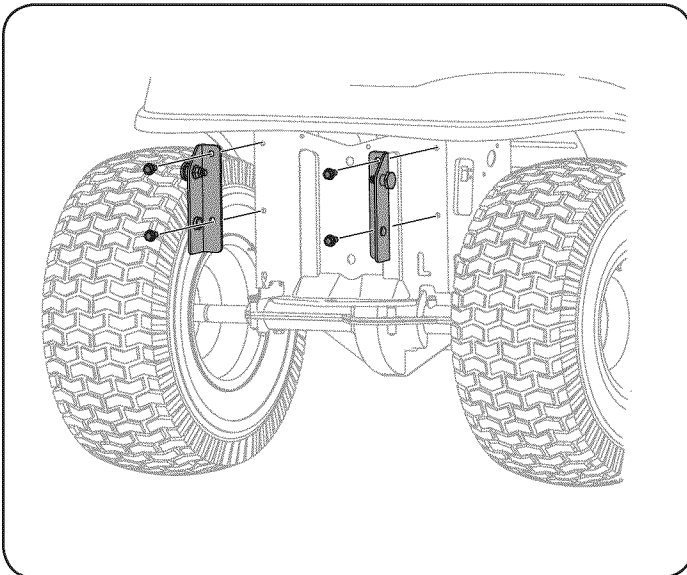

Figure 2
3. Mount the brackets to your tractor using four self-tapping hex screws included with your kit. See Figure 2.